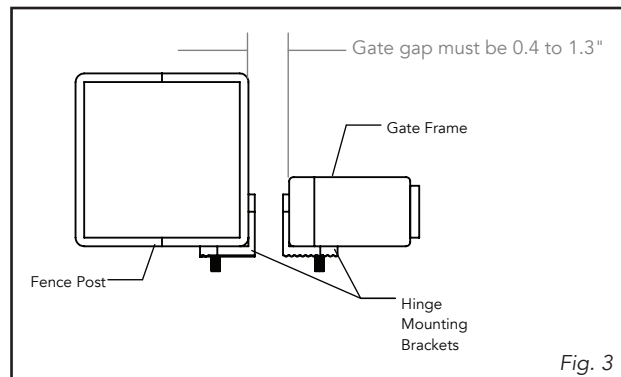

Fig. 3
2. The brackets should be positioned on the outside surfaces of the posts with the gate in the closed position (Fig. 3). The top edge of the upper hinge should be mounted within 6" of the top surface of the top rail, and the bottom edge of the lower hinge should be mounted within 6" of the lower surface of the lower rail (Fig. 4). In applications where additional hinges are used, they should be evenly spaced between the upper and lower hinges. The mounting brackets with horizontal locking grooves are for the vertically adjustable side of the hinge, while the brackets with the vertical locking grooves are for the horizontally adjustable side of the hinge.
3. Slide the latch assembly and button assembly onto the main housing (Fig. 3) on the opposite sides, taking care to align the dovetails on the housings with the dovetails on the main housing. The button should be inserted through the hole in the main housing, and the spring should be aligned with the spring seat. Reinstall the (4) housing screws. Check the completed assembly (Fig. 4) to make sure it is now properly handed for the application (see Step 1).